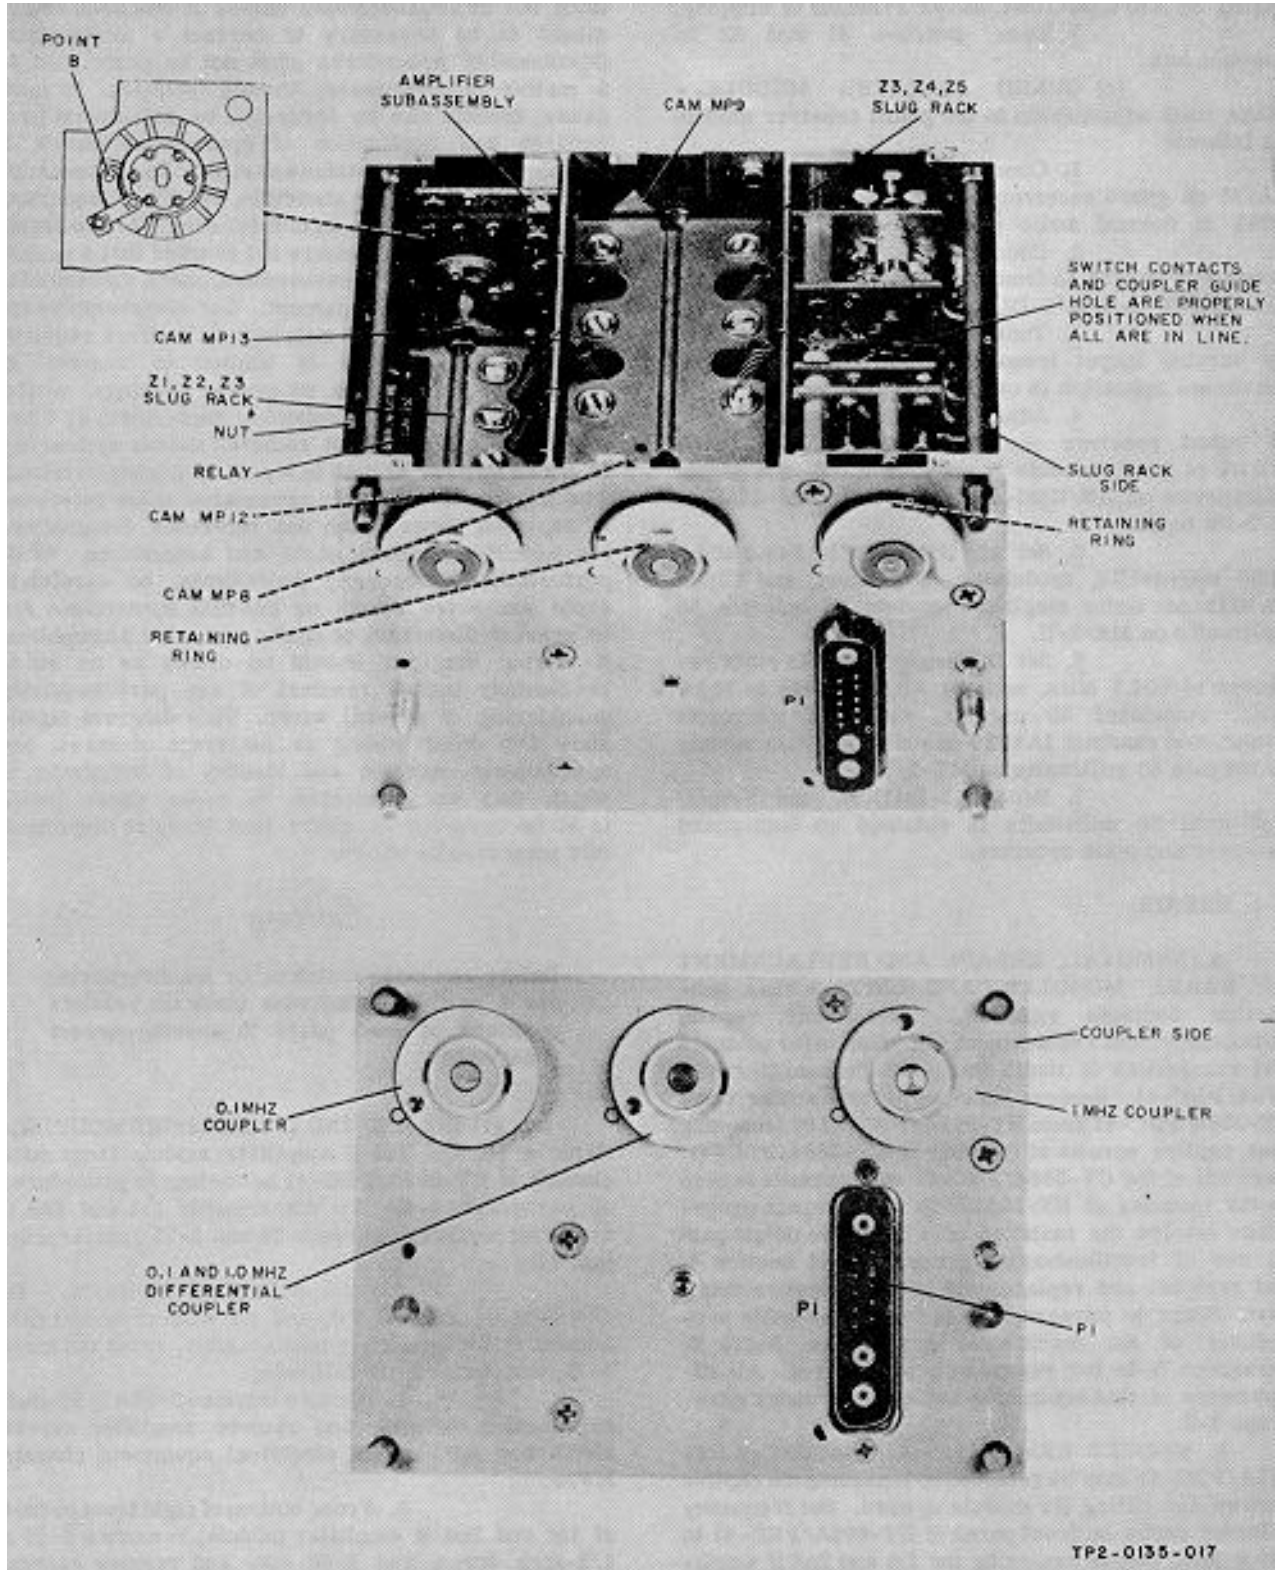

Figure 5-28. 1st and 2nd IF Amplifier Module, Switch and Cam Positioning Diagram
(1) **1ST AND 2ND IF AMPLIFIER MODULE.**-Remove 1st and 2nd if amplifier module from main chassis of RT-695A/PRC-41 according to procedures of paragraph 5-4b. To disassemble 1st and 2nd if amplifier module (figures 5-28 and 5-75), perform the following:
3. Set 1st and 2nd if amplifier module on maintenance bench so it is resting on wired bracket assembly and slug racks are upward. Rotate coupling MP10 so the guide pin hole is located over silk-screened circle on coupler side of electrical equipment chassis MP39. Rotor of rotary switch on amplifier subassembly should be making contact with its stator at point B (figure 5-28) and high point on cams MP12 and MP13 should be positioned downward. Replace spring pins in cams MP12 and MP13, and connect two helical springs MP6.
4. Rotate cams MP8 and MP9 so their flat sides are upward and to left, and the collar pinning holes match holes in shouldered shaft MP11. Replace spring pins in cams MP8 and MP9 and connect four helical springs MP6. Refer to figure 5-28.
(c) OSCILLATOR AND SWITCHBOARD, AND RF COIL ASSEMBLIES. - With the oscillator and switchboard, and rf coil assemblies in place on electrical equipment chassis MP39, replace the shaft of shouldered shaft MP15 into the bearing of chassis MP39. Replace the shaft of shouldered shaft MP15 through oscillator and switchboard assembly, rf coil assembly and into bearing of electrical equipment chassis MP39. With coupling MP 10 of shouldered shaft MP15 rotated so its guide pin hole is upward, electrical contacts of the rotary switches in oscillator and switchboard and rf coil assemblies should be upward and in line with the coupling MP10 guide pin hole (figure 5-28). Replace retaining ring on shouldered shaft MP15.